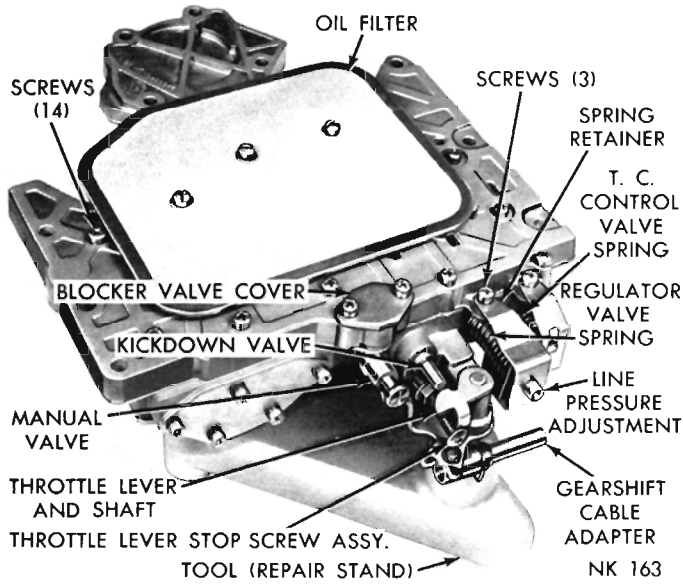

Fig. 71—Valve Body and Control Assembly
(1) Place the valve body assembly on repair stand, Tool C-3749 (Fig. 71). Remove three screws from the oil filter and lift off the filter and gasket.
(2) While holding the spring retainer firmly against
the spring force, remove the three bracket retaining screws (Fig. 71).
(15) Position the torque converter valve spring and regulator valve spring over the ends of their respective valves. Place the line pressure adjusting screw assembly on the end of the regulator valve spring with long dimension of nut at right angles to the valve body (Fig. 71).
(16) Install the spring retainer, making sure the converter valve spring is engaged on the tang and position squarely in the retainer. Tighten the three retaining screws to 28 inch-pounds torque (Fig. 71).